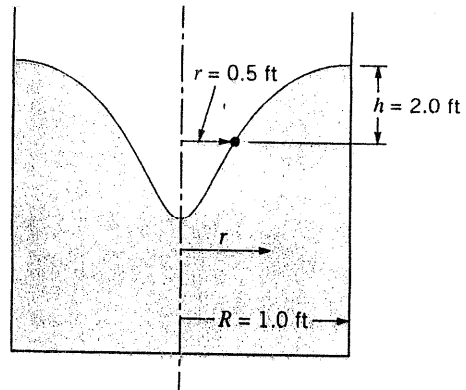

FIGURE P3.13
3.13 As shown in Fig. P3.13 and Video V3.2, the swirling motion of a liquid can cause a depression in the free surface. Assume that an inviscid liquid in a tank with an $R = 1.0$ ft radius is rotated sufficiently to produce a free surface that is $h = 2.0$ ft below the liquid at the edge of the tank at a position $r = 0.5$ ft from the center of the tank. Also assume that the liquid velocity is given by $V = K/r$, where K is a constant. (a) Show that $h = K^2 [(1/r^2) - (1/R^2)] / (2g)$. (b) Determine the value of K for this problem.